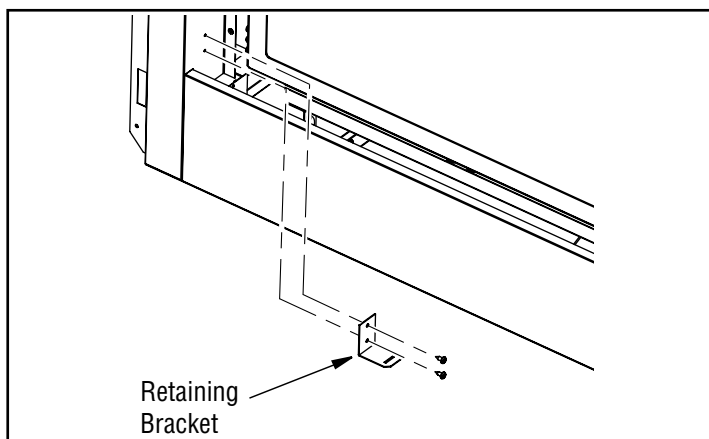

Figure 41 - Installing Access Door Retaining Brackets for See-Thru Applications
1. Screw access door retaining brackets into the inner side face using 2 screws on both the left and right side as shown in **Figure 41**.